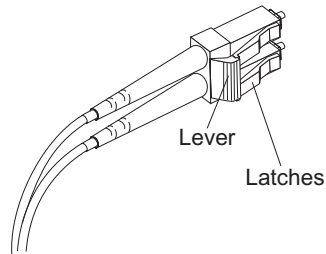

Figure 31. LC-LC fibre-channel cable lever and latches
1. On the end of the LC-LC cable that connects into the SFP module or host bus adapter, press down and hold the lever to release the latches, as shown in Figure 31.